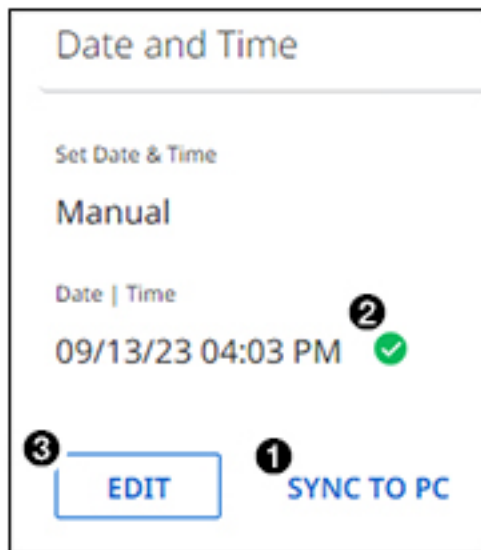

Figure 28. Syncing UCS Date and Time to the PC
Click the **SYNC TO PC** button (see figure 28, **1**). (Clicking the **EDIT** button first is optional.)
1. In the Date and Time panel, click the **EDIT** button (see figure 28, ③ on the previous page).